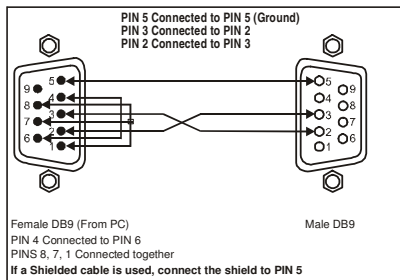

Figure 9: Connecting a PC without using a Null-modem Adapter
- Connect the RS-232 DB9 port on your PC to the RS-232 DB9 rear panel port on the **VP-26**, as Figure 9 illustrates